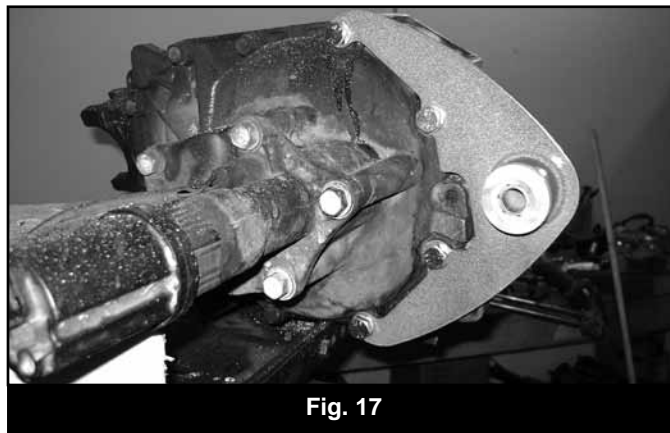

Fig. 17
34. Install the bushings (3624RB) and $\frac{3}{4}$ " x 2.955" sleeve (15-1) in the new differential bracket (02125). Line the bracket up to the differential case bolts to determine which bolts to remove. Remove the appropriate bolts and install the bracket with four 10mm x 60mm bolts and 10mm flat washers (BP 633) (Fig 17). Use Loctite® on the threads and torque to 30 ft-lbs.